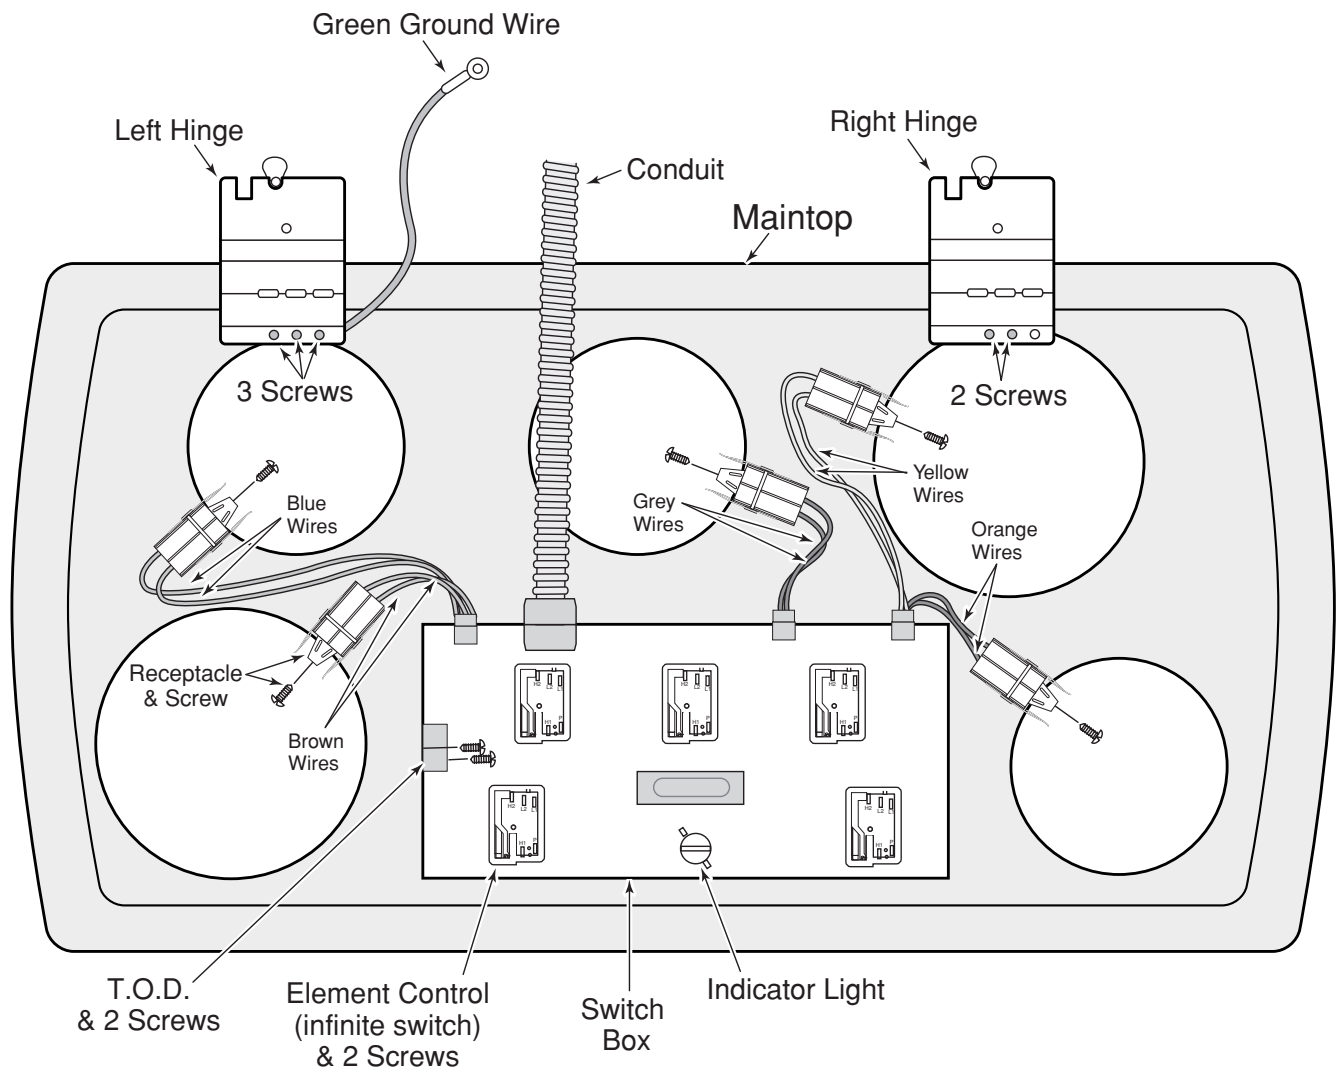

Figure 3-5
Refer to Figure 3-5 for the following steps.
10. Lift the maintop assembly off the burner box and pull the conduit out of the burner box opening, then position the maintop upside down (as shown in Figure 3-5) on a covered work surface.